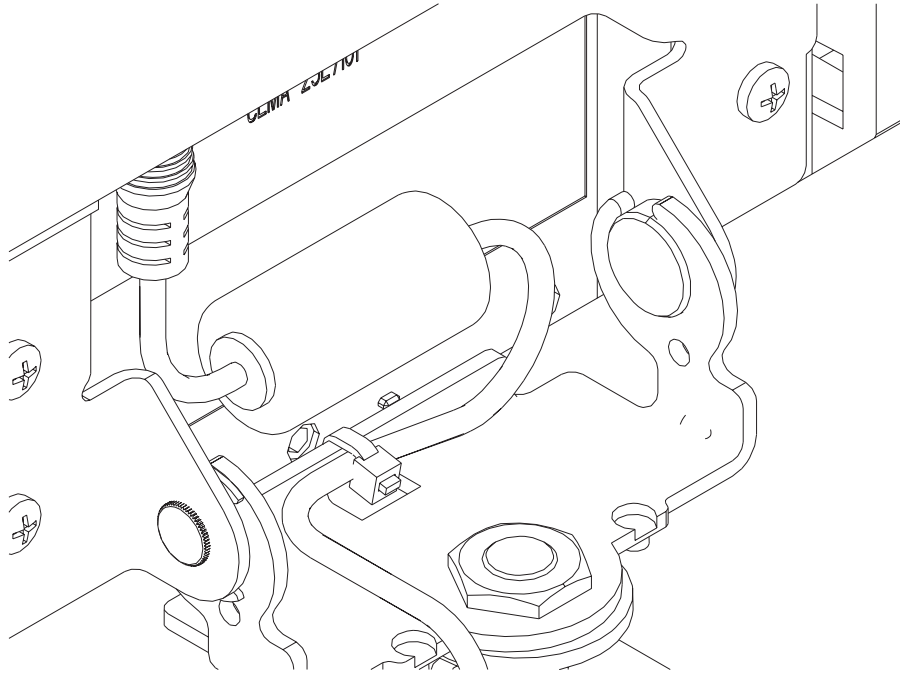

Figure 2-22. Routing the power cable
4. Route the power cable and secure it to the mounting bracket with a cable tie as shown in Figure 2-22.